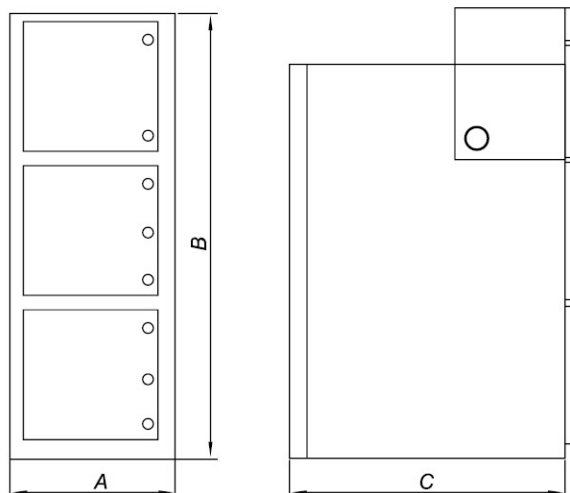
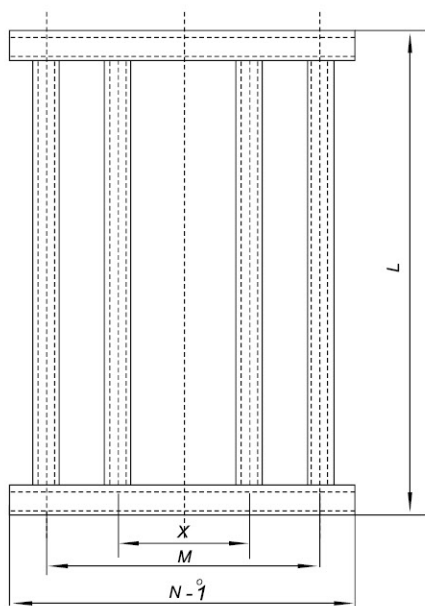

Figure 6. Switchgear dimension
Figure 7. Switchgear foundation installation diagram
5.10 Switchgear overall dimension (refer to Figure 6 and Figure 7)
6.1 Switchgear foundation installation diagram refers to Table 6 and Figure 7. The black star “★” means that the foundation diagram is applying the switchgear with black star.